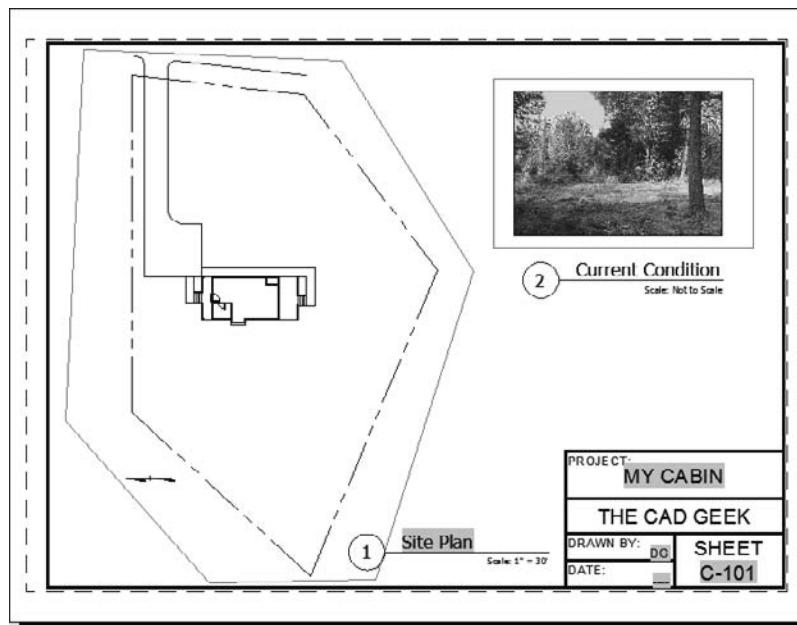

FIGURE 14.80 The completed Site Plan layout
10. Create a new viewport and zoom into see the referenced image file; then copy and edit the Drawing Title block. Your layout should look similar to Figure 14.80.